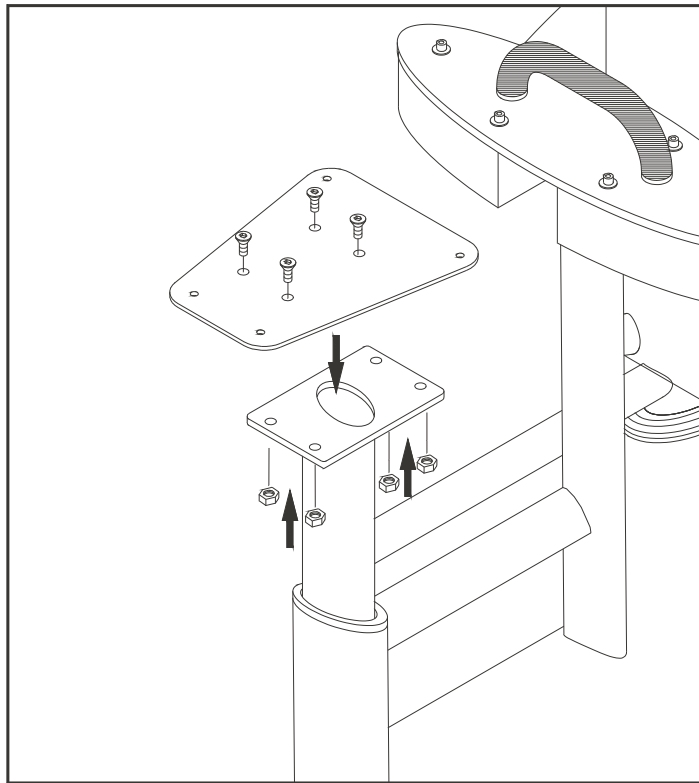

Fig.1
1. Fasten the seat plate with screws provided. (See Fig. 1)